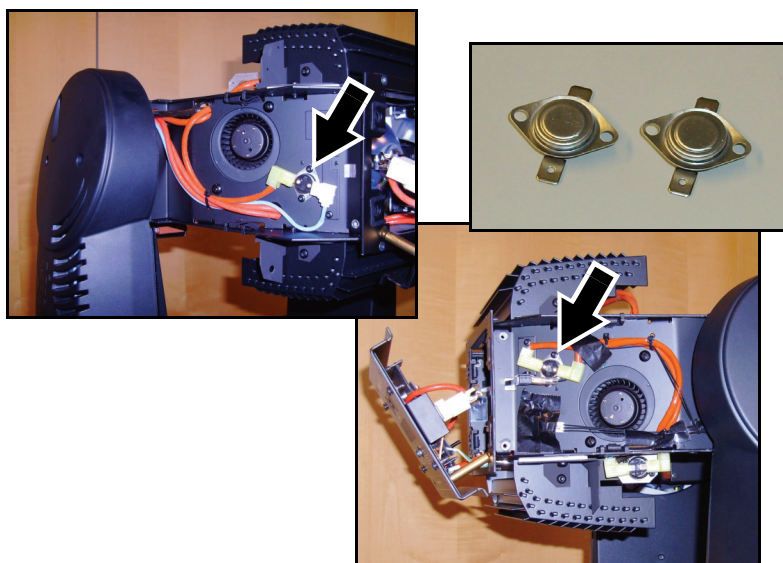

Figure 63
68. See Figure 63. Replace the thermoswitches (arrowed) in both sides of the head with the two new thermoswitches (P/N 05040023) supplied in the Upgrade Kit, re-using the existing screws.